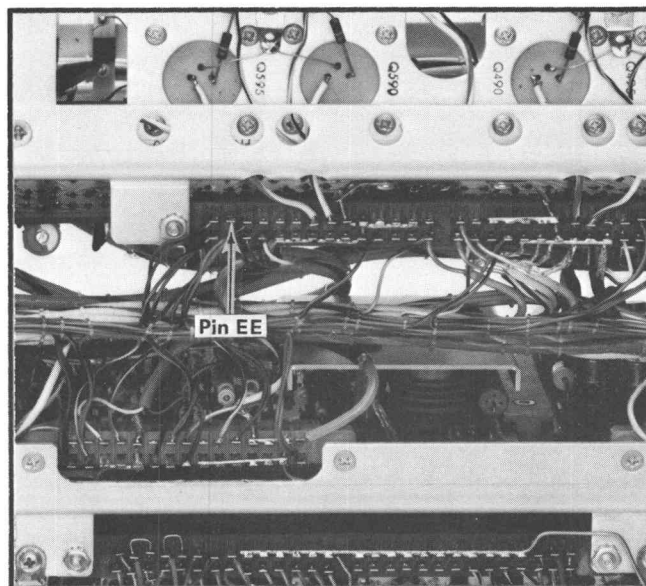

Fig. 5-18. Location of Pin EE, X-Y Axis board.
- c. Connect a 10X probe from the test oscilloscope to pin EE of the X-Y amplifier board (vertical Position control center arm) see Fig. 5-18. DC couple the test oscilloscope. Using the front panel Vertical Position control, set the voltage to 0 V as monitored on the test oscilloscope. Maintain this level through steps 20 and 21.